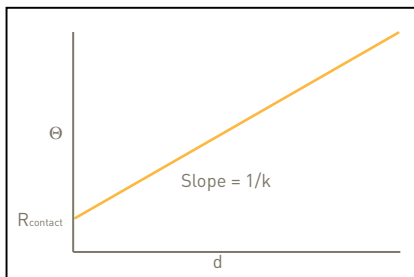

Figure 2. Thermal Impedance vs. Thickness
Thermal impedance can be measured using ASTM D5470 at several clamping forces to generate a pressure versus thermal impedance plot as shown in Figure 2. This type of data can be used to generate information about the ability of a material to conform to surfaces to minimize contact resistance. Care must be taken with this type of data because contact resistance is also highly influenced by surface characteristics. To minimize the impact of test equipment variations, this type of work is best performed with the same test surfaces for all materials being tested.
Equation (6) shows that for a homogeneous material, a plot of thermal impedance $[\Theta]$ versus thickness (d) is a straight line whose slope is equal to the inverse of the thermal conductivity and the intercept at zero thickness is the contact resistance shown in Figure 2. Thickness can be varied by either stacking up different layers of the material or by preparing the material at different thicknesses.